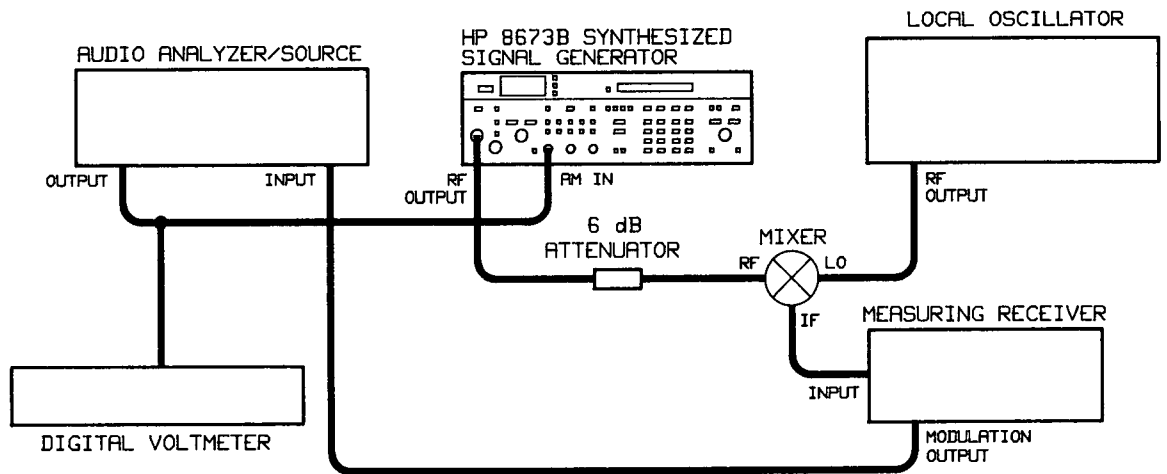

Figure 4-34. Incidental FM Test Setup
1. Connect the equipment as shown in Figure 4-34.